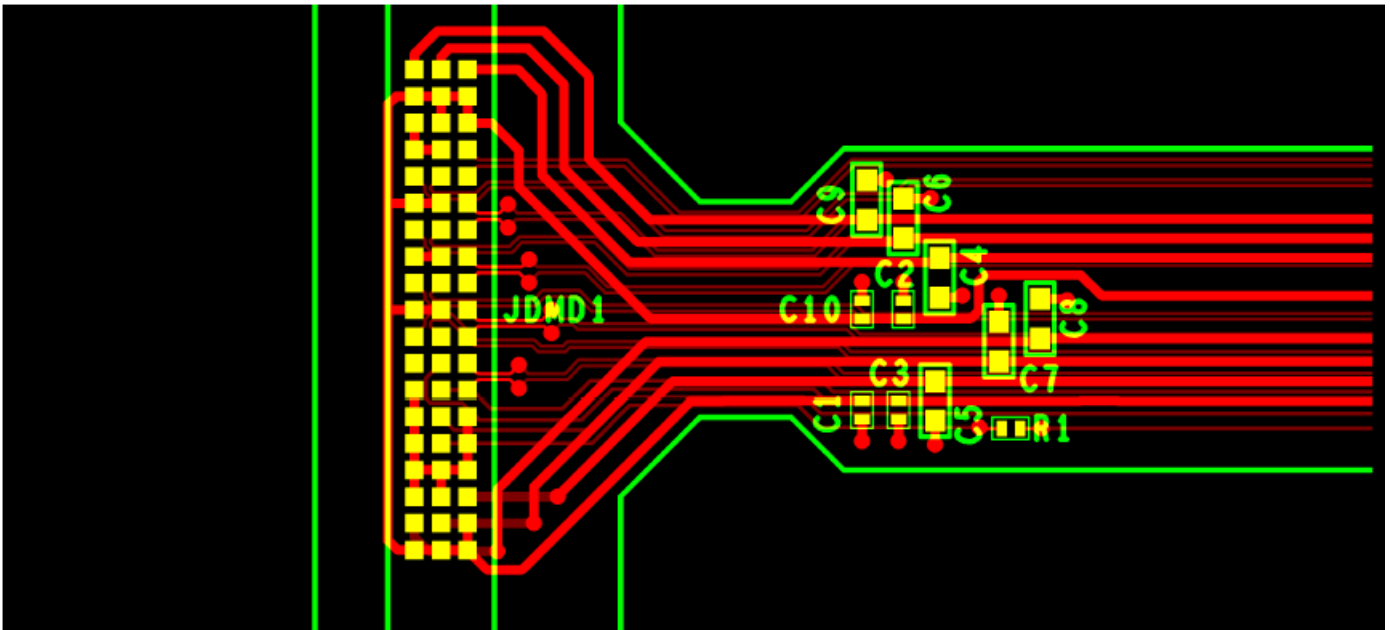

图 10-1. Power Supply Connections
- Minimize vias, layer changes, and turns for the HS bus signals. Refer 图 10-1.
- Minimum of two 220-nF decoupling capacitor close to VBIAS. Capacitor C3 and C10 in 图 10-1.
- Minimum of two 220-nF decoupling capacitor close to VRST. Capacitor C1 and C9 in 图 10-1.
- Minimum of two 220-nF decoupling capacitor close to VOFS. Capacitor C2 and C8 in 图 10-1.
- Minimum of four 220-nF decoupling capacitor close to VDDI and VDD. Capacitor C4, C5, C6 and C7 in 图 10-1.